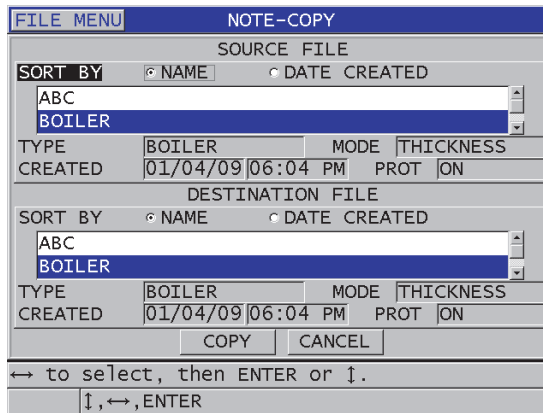

Figure 11-25 Copying a note table from one file to another
3. In the **NOTE-COPY** screen (see Figure 11-25 on page 216):